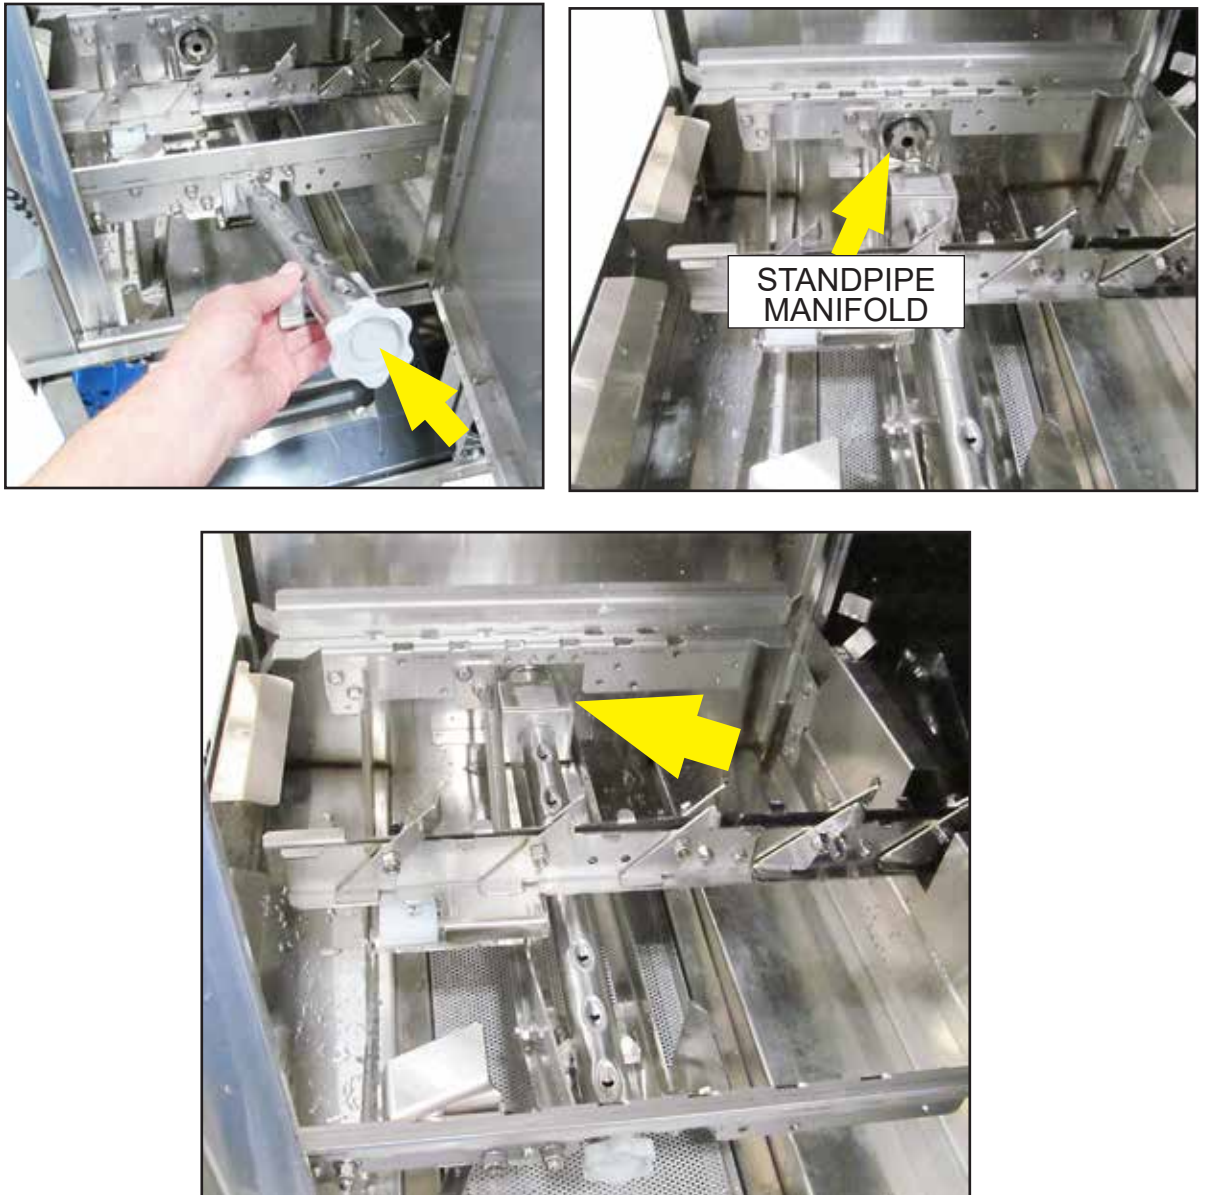

Fig. 10
- 2** Slide lower prewash spray arm on tracks until it seats in the standpipe manifold. Push down to lock in place, Fig. 10.